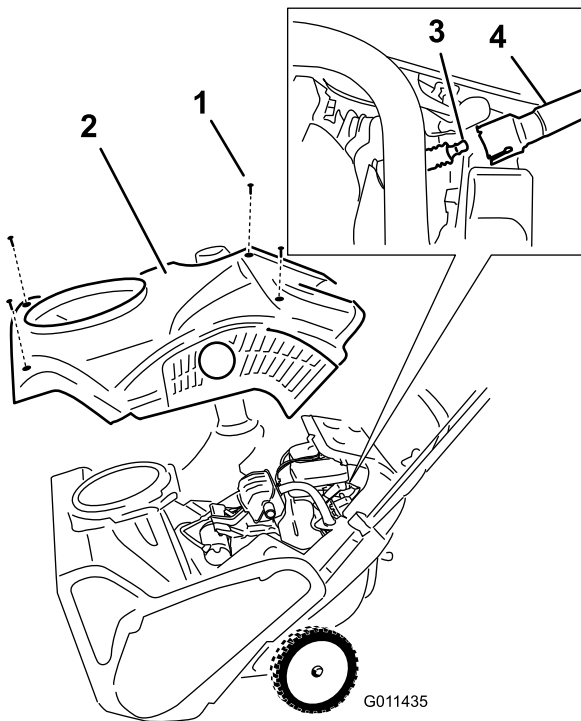

Figure 35
4. Remove the 4 screws that secure the shroud (Figure 35).
1. Screw (4)
6. Remove the shroud (Figure 35).